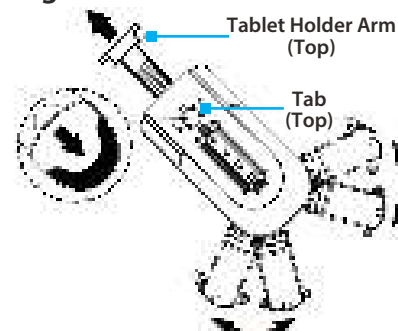

Figure 1
1. Pull and hold the top **Tab** and extend the top **Tablet Holder Arm** until it reaches its full length. (Figure 1)